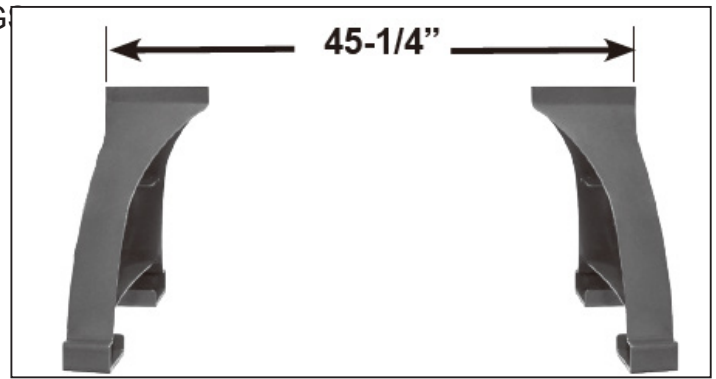

Fig.4.4.1
1. Position the two Legs (H, #F1) approximately 45-1/4" apart measuring from the outside edges. Be sure that the shelf brackets on the legs are facing inward, towards each other. Fig.4.4.1.